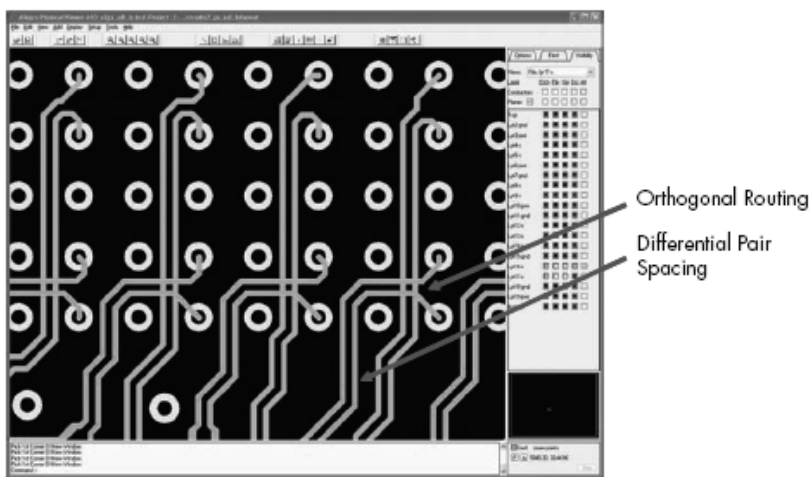

Figure 8. Layout Example of How to Avoid Crosstalk
- ◆ *Do not route pairs on adjacent layers co-parallel in broadside topology. Instead, use orthogonal routing on signal on different layers to avoid crosstalk. Figure 8. shows an example.*